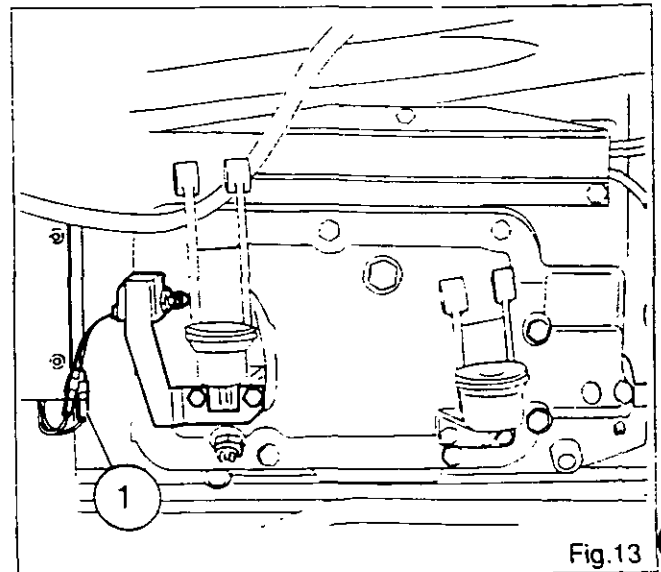
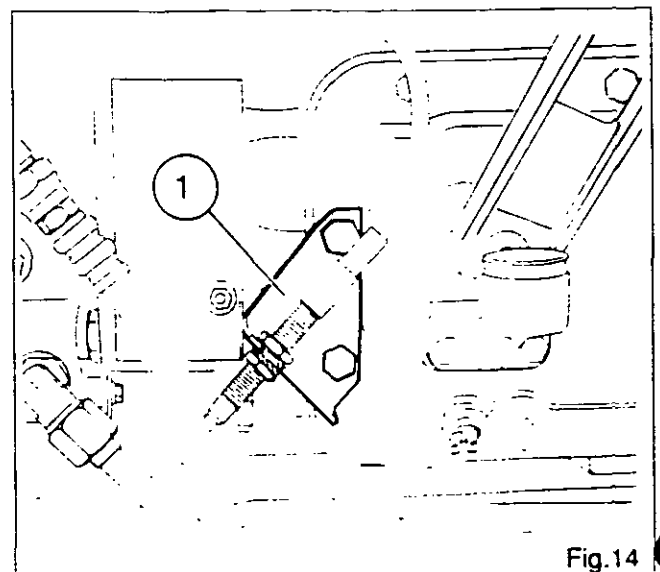

Fig.13
Fig.14
On gearboxes fitted with a speed limiter, disconnect the wiring to switch (1) (Fig. 13).
13. Remove bolts (33).
- N.B.: Mark the positions of locating bolt (3) and earth wire lug (24).**
**On gearboxes fitted with creeper gears, take off the control cable support (1) (Fig. 14).**
14. Remove cover (57).
46. Fit the earth wire lug (24).
**N.B.:** *Grease ball-joints (8) (14) and (21) (27) (Loctite Anti Seize grease or equivalent).*
On gearboxes fitted with a speed limiter, fit switch (1) (Fig. 13) (see Section 5 M01).